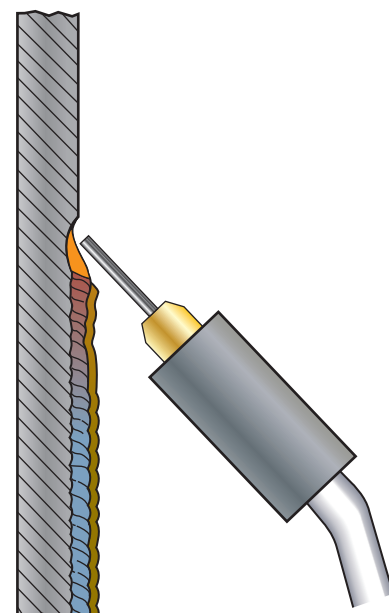

FIGURE 13-16 Vertical up gun angle.
- *Out-of-position welds*—this technique works well on vertical up and overhead joints for better control of the weld pool, Figure 13-16.